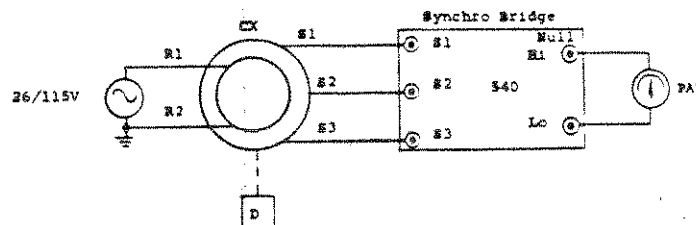

Figure 7-1. Angular Accuracy (CX)
- a. Connect equipment as shown in figure 7-1. Rotate CX shaft counterclockwise as viewed from shaft end until phase angle voltmeter (PAV) reads zero. Note that the meter approaches 0 from left to right. For 115V excitation, use 100 V range of the PAV.